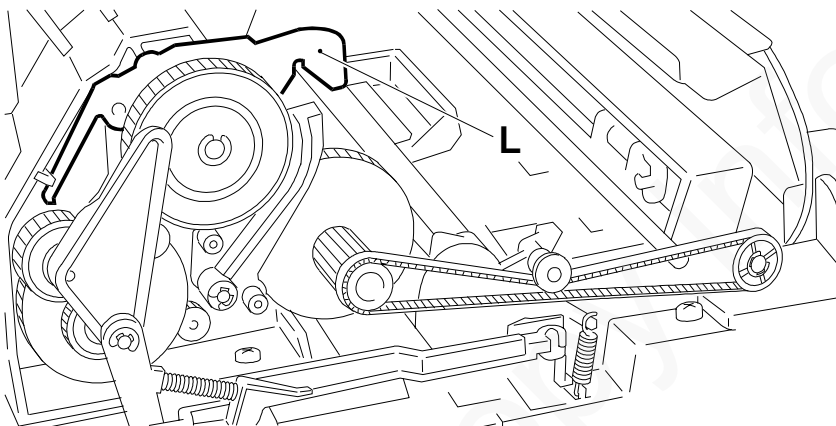

Fig. 7-30
- reassemble the paper freeing lever **L** before the paper shifter roller shaft (Fig. 7-30):
- reassemble the paper freeing lever **L** before the paper shifter roller shaft (Fig. 7-30)